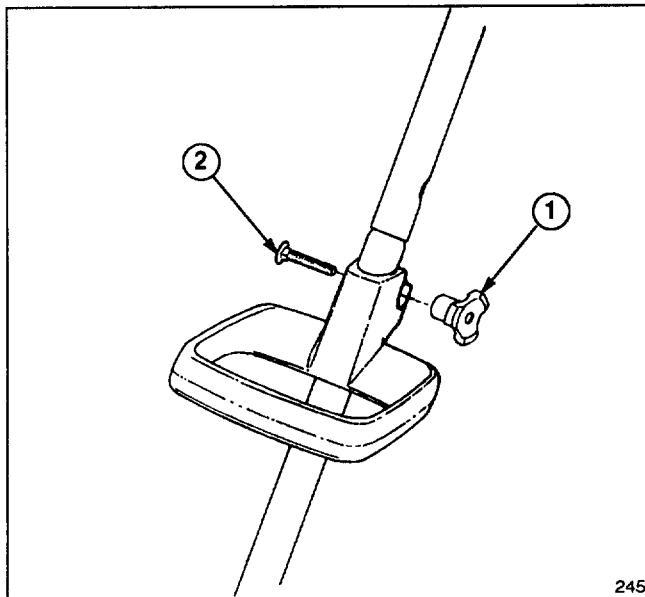

Figure 4
5. Loosely secure adjustable handle to tube with carriage bolt and knob (supplied in loose parts bag) as shown in Figure 4.